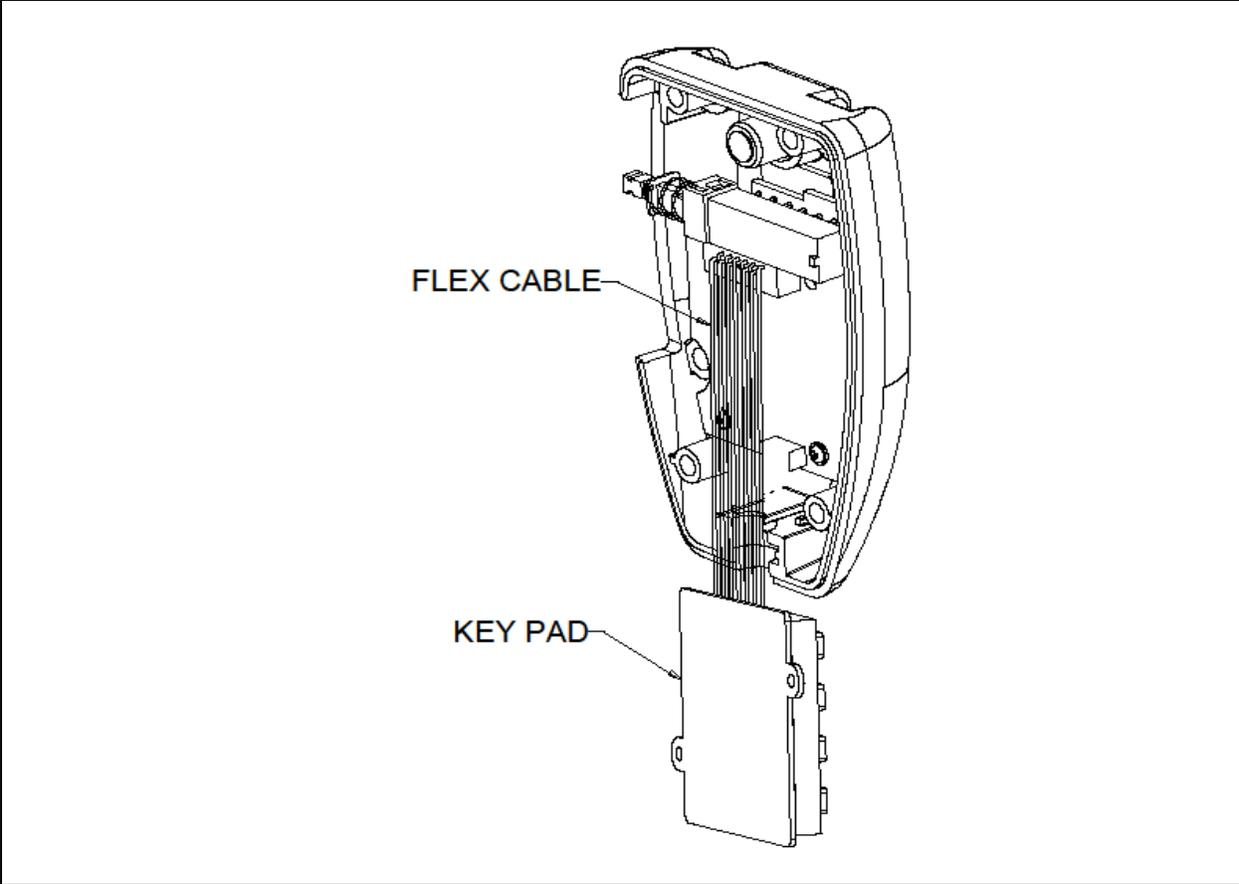

Figure 3
5. Insert replacement cable connector in PCB board. See figure 3 for correct
2. Refer to figure 3. Remove the flex cable of the keypad from the PCB.